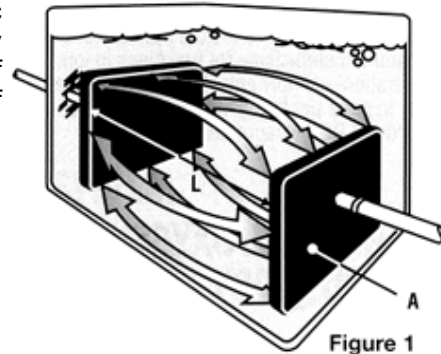

Figure 1
The basic unit of conductivity is the siemens (S), formerly called the mho. Since cell geometry affects conductivity values, standardized measurements are expressed in specific conductivity units (S/cm) to compensate for variations in electrode dimensions. Specific conductivity (C) is simply the product of measured conductivity (G) and the electrode cell constant (L/A), where L is the length of the column of liquid between the electrode and A is the area of the electrodes (see Figure 1).